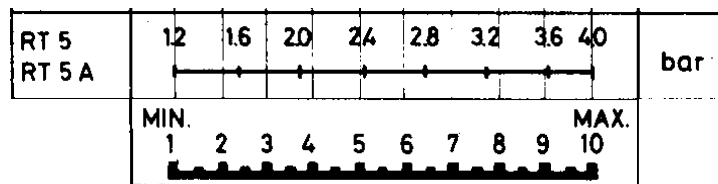

Fig. 4
- Turn the knob (1) until the scale indicator (2) reaches the pressure at which the burner shall restart;
- Remove the cover of the pressure switch and position the drum (3) at the value selected for the pressure differential (stopping the burner) as to the diagram Fig. 4.